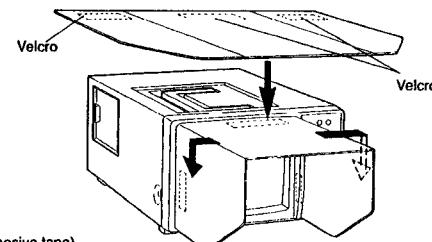

Fig. 2
3. Install the screen hood by wrapping it around the screen frame, as shown. (See Fig. 2.)